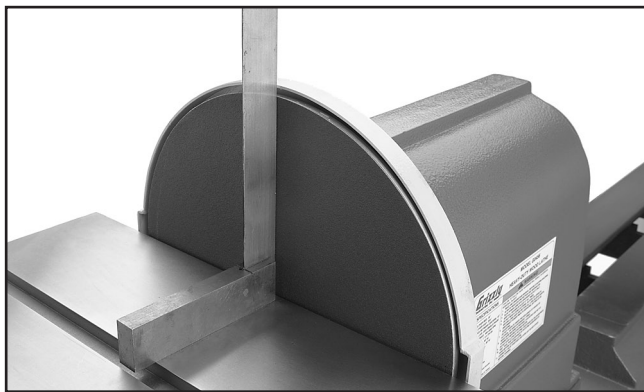

Figure 51. Squaring table to disc.
1. Using a try-square or machinist's square, set one edge on the table surface and the other against the face of the disc as shown in **Figure 51**. **Note:** *This can be done with the sandpaper installed, although it is somewhat easier to measure if the disc does not have the sandpaper disc installed.*